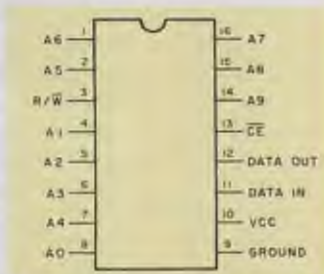
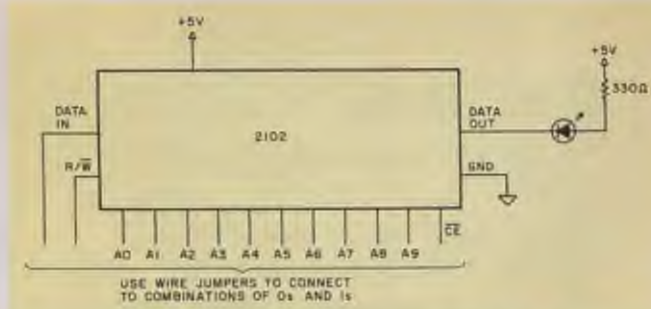

Fig. 6. 2102 RAM pin-out.
Fig. 7. 2102 RAM Experiment #60 wiring.
**Procedure:** Fig. 6 shows the pin-out of the 2102. Make the ground, power and LED connections shown in Fig. 7. Then use short wire jumpers to make the remaining connections to the data input, read/write, address and chip enable pins.